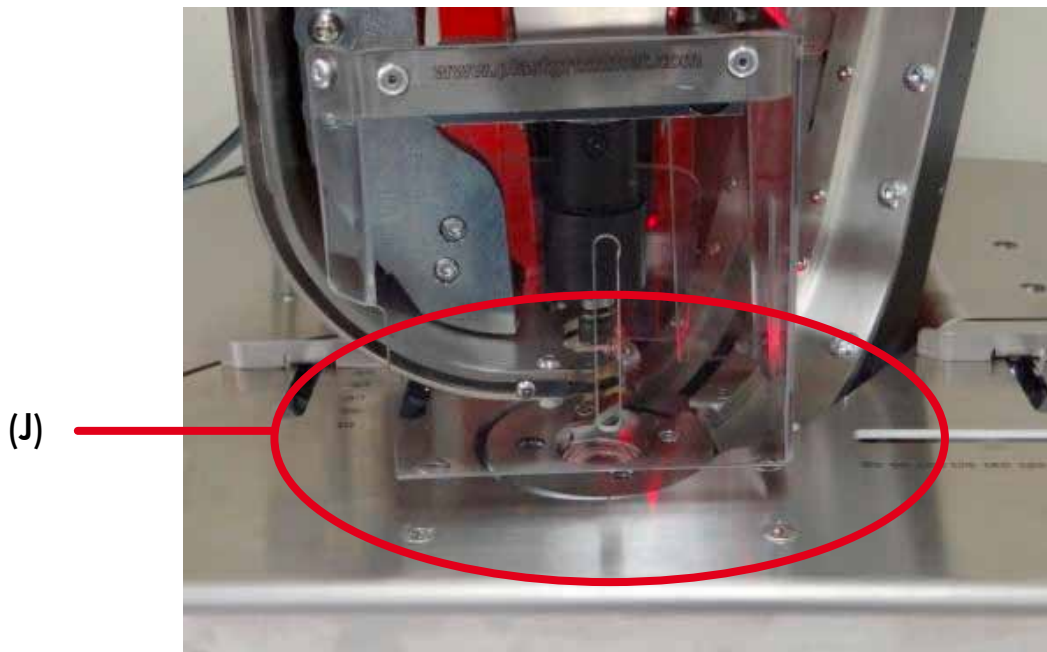

Fig. 5
Please be very careful while doing adjustments, always making sure that your hands and fingers are out of the setting area (J) (see Fig.5) and that nobody can press the setting button /pedal (F) (see Fig. 1).